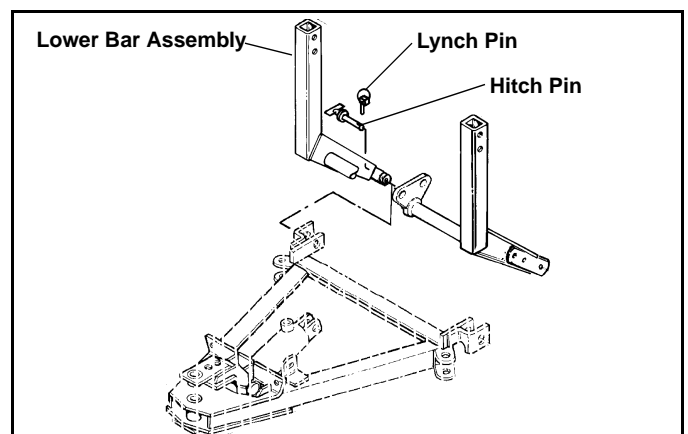

Figure 2
4. Remove lower Hitch Pins. Mount Lower Bar Assembly to Main Plow Frame by sliding bosses on Pivot Bars into holes on Pivot Plates. Use long Hitch Pins (#96100015) to locate and secure. Reuse Lynch Pins. (See Figure 2)